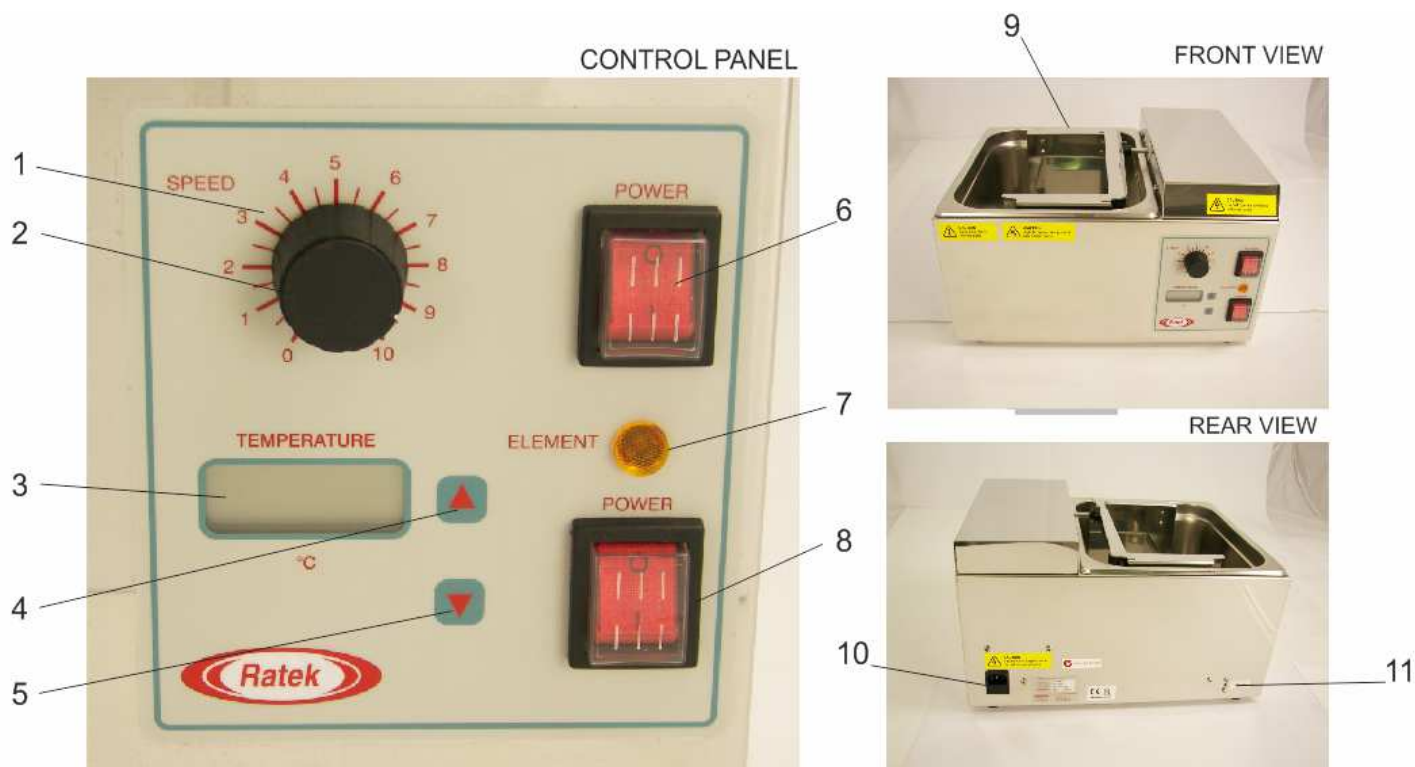

Figure 1
<ul style="list-style-type: none"> - ALWAYS wear protective eyewear when working with hot liquids. - ALWAYS place the water bath on a strong, even, dry, flat waterproof surface which is made of inflammable material. Placing the water bath on an unstable surface could cause hot water to spill. - ALWAYS empty the water bath before moving the equipment to a new location. - ALWAYS turn off both mains power switches (elements 6 and 8 in Figure 1) when the unit is not in operation and turn off the mains power supply at the outlet. - ALWAYS turn off both mains power switches (elements 6 and 8 in Figure 1) and unplug the equipment from the mains power supply outlet before emptying the water tank or moving the equipment. - ALWAYS be careful of water condensation above or near the water bath and ensure at all times that the condensation cannot come in contact with the water bath control panel or mains power input receptacle (element 10 in Figure 1). Ensure benches are kept dry at all times. - ALWAYS operate the water bath in a well ventilated area with adequate clearance around the water bath as indicated. - ALWAYS be careful of steam and avoid making contact. - ALWAYS use the water bath with the oscillating cradle moving to improve temperature uniformity. - ALWAYS use only the supplied mains power lead. Non-genuine leads may not be suitable. - NEVER operate the water bath without water in the water tank. - NEVER empty the water bath while it contains hot water. Always allow the water to cool to ambient room temperature before emptying. - NEVER operate the equipment if you believe it is damaged in any way. - NEVER operate the water bath if the mains power supply cable is damaged in any way - NEVER use any sharp or metal objects near the water bath control panel or mains power input receptacle (element 10 in Figure 1). - NEVER lift the water bath if you have an existing injury that impairs your ability to lift.
<ul style="list-style-type: none"> - Carefully remove all packaging material from the water bath, as well as the supplied mains power lead, User Manual and any other supplied accessories. The oscillating cradle (element 9 in Figure 1) inside the water bath should not be removed. - Carefully inspect the water bath, mains power lead and all packaging for any signs of damage. If any signs of damage are present, do not install or operate the equipment. Contact the supplier of your equipment if you have a received a damaged product. - Place the water bath in an upright position as per Figure 1 on a strong, even, flat waterproof surface which is made of inflammable material.
<p>CAUTION Before filling the water tank, ensure the mains power supply outlet is switched off and that the mains lead is removed from the mains power input receptacle (element 10 in Figure 1).</p> <p>The nature of pouring water is unpredictable and should be done carefully away from any electrical supply to avoid the risk of electric shock.</p>
<ul style="list-style-type: none"> - Using the supplied mains power lead, insert the socket end of the lead firmly into the mains power input receptacle (element 10 in Figure 1) until it will move no further.
<ul style="list-style-type: none"> - Once you are ready to begin heating the water, switch the Heating On/Off mains power switch (element 8 in Figure 1) down to the position marked with a vertical line. The Heating On/Off mains power switch (element 8 in Figure 1) will light up red to indicate the heating system is active. - The heating control system will begin its startup, after several seconds the LCD temperature display (element 3 in Figure 1) will read the current water temperature in degrees Celsius. - If the last set temperature is greater than the current water temperature, the Heating Element Indicator (element 7 in Figure 1) will light up and either flash to indicate intermittent heating or remain lit constantly to indicate constant heating.
<p>CAUTION The heating element is the round disc visible in the bottom of the water tank, directly underneath the oscillating cradle.</p> <p>Once the Heating Element Indicator (element 7 in Figure 1) is lit, the heating element is active and the surface of the element will remain extremely hot whilst heating and for many minutes even after power to the unit has been disconnected. Once the Heating Element Indicator has lit, under no circumstances should you place any part of your body near the bottom of the water tank. The residual heat of the element creates a hazardous situation sufficient to cause burns or scalding if contact with the element is made.</p> <p>IMPORTANT : Under no circumstances should the oscillating cradle ever be removed from the water bath. If the oscillating cradle is removed, a hazardous situation will be created sufficient to cause burns or scalding if contact with the element is made.</p>
<ul style="list-style-type: none"> - The LCD temperature display (element 3 in Figure 1) indicates the current water temperature in degrees Celsius in its default operating mode. - When the temperature is being set, the LCD temperature display (element 3 in Figure 1) will temporarily read the temperature set-point value that the operator is adjusting.
<ul style="list-style-type: none"> - Use the temperature increase key pad (element 4 in Figure 1) to increase the required temperature by pressing quickly for single digit increments, or holding the key to increase the temperature setting by larger amounts. The value on the LCD temperature display (element 3 in Figure 1) will alter. - Use the temperature decrease key pad (element 5 in Figure 1) to decrease the required temperature by pressing quickly for single digit increments, or holding the key to decrease the temperature setting by larger amounts. The value on the LCD temperature display (element 3 in Figure 1) will alter. - Once the adjustments have been made, the LCD temperature display (element 3 in Figure 1) will return to show the current water temperature after a few seconds. - If the last set temperature is greater than the current water temperature, the Heating Element Indicator (element 7 in Figure 1) will light up and either flash to indicate intermittent heating or remain lit constantly to indicate constant heating. - Once the water temperature nears the set point, the PID temperature control circuit will start to intermittently engage the element to reduce the rate of heating. - It is normal for the temperature to exceed the set point slightly whilst the temperature in the bath stabilizes. The bath temperature will drop back down to the set temperature and then the proportional temperature control will attempt to maintain the set temperature.
<ul style="list-style-type: none"> - Turn power Off to the oscillating cradle by setting the Oscillation On/Off mains power switch (element 6 in Figure 1) up to the setting marked with a circle. - When loading, use appropriate tools (such as silicon insulated tongs) to place the required rack, container or accessory onto the oscillating platform. Ensure the item is adequately retained by the 2 retaining walls on the bottom of the cradle. If the item is too small to be adequately retained, it should be loaded into another suitable rack or tray which will be adequately retained by the retaining walls. - When unloading, use appropriate tools (such as silicon insulated tongs) to slowly remove the items and place them onto a water-proof and heat-proof surface. - Continue to load or unload your containers, racks or accessories until complete.
<p>CAUTION Always turn the Oscillation speed control knob (element 2 in Figure 1) down to setting 0 before starting the oscillating cradle. This will assist in preventing any splashing or unexpected behavior once the cradle starts to move.</p>
<ul style="list-style-type: none"> - Turn the Oscillation speed control knob (element 2 in Figure 1) down to setting 0. - Turn power On to the oscillating cradle by setting the Oscillation On/Off mains power switch (element 6 in Figure 1) down to the setting marked with a vertical line. The Oscillation On/Off mains power switch (element 6 in Figure 1) will light up red to indicate the speed control is now active. - Slowly turn the Oscillation speed control knob (element 2 in Figure 1) clockwise up towards the required oscillation speed, the cradle will begin to move. - Continue to increase the speed until the desired oscillating speed is reached. - Note : In cases where the required oscillation speed is very slow, it may be necessary to increase the oscillation speed to slightly more than the required speed, and then reduce the speed back to the
- Slowly turn the Oscillation speed control knob (element 2 in Figure 1) anti-clockwise down to setting 0.
- Turn power Off to the oscillating cradle by setting the Oscillation On/Off mains power switch (element 6 in Figure 1) up to the setting marked with a circle. The Oscillation On/Off mains power switch (element 6 in Figure 1) will go dark which indicates the speed control is now inactive.
- Switch the Heating On/Off mains power switch (element 8 in Figure 1) up to the position marked with a circle. The Heating On/Off mains power switch (element 8 in Figure 1) will darken which indicates the heating system is now inactive.
- Turn off both mains power switches (elements 6 and 8 in Figure 1) by setting these to the up position marked with a circle.